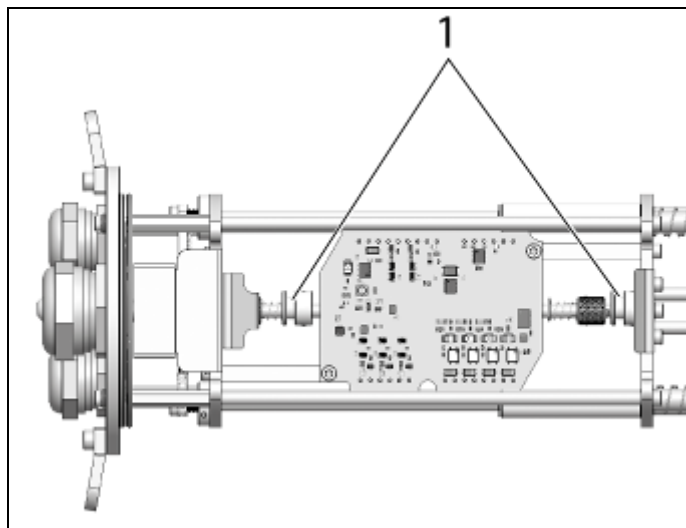
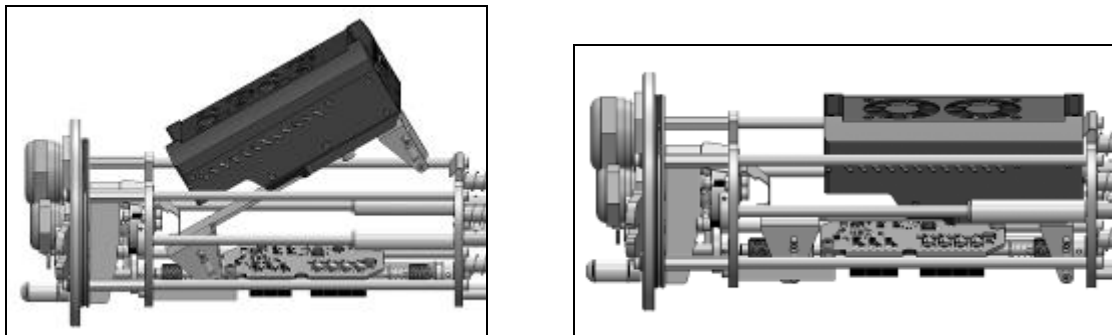

Figure 46: Notch to fix the PI NetBox (top view)
Figure 47: Fitting the PI NetBox into the chassis (right hand view)
At first push the fastening rail with the PI NetBox into the left notch (1) of the shaft. Afterwards into the right notch (1) (**Figure 46**) until it is engaged (**Figure 47**).